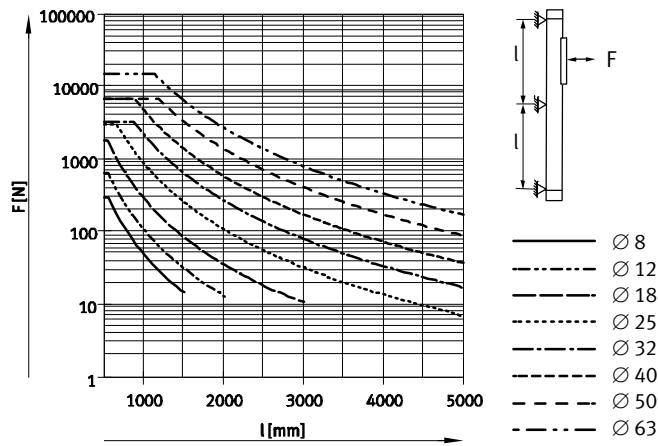

Fig. 6 This shows the support spacings required for the various fittings
For transport, the transport belts must be spaced according to the permissible support distances (support distances → Fig. 6).
- Use the support spacings (l) for the profile attachments MUC → Fig. 6.